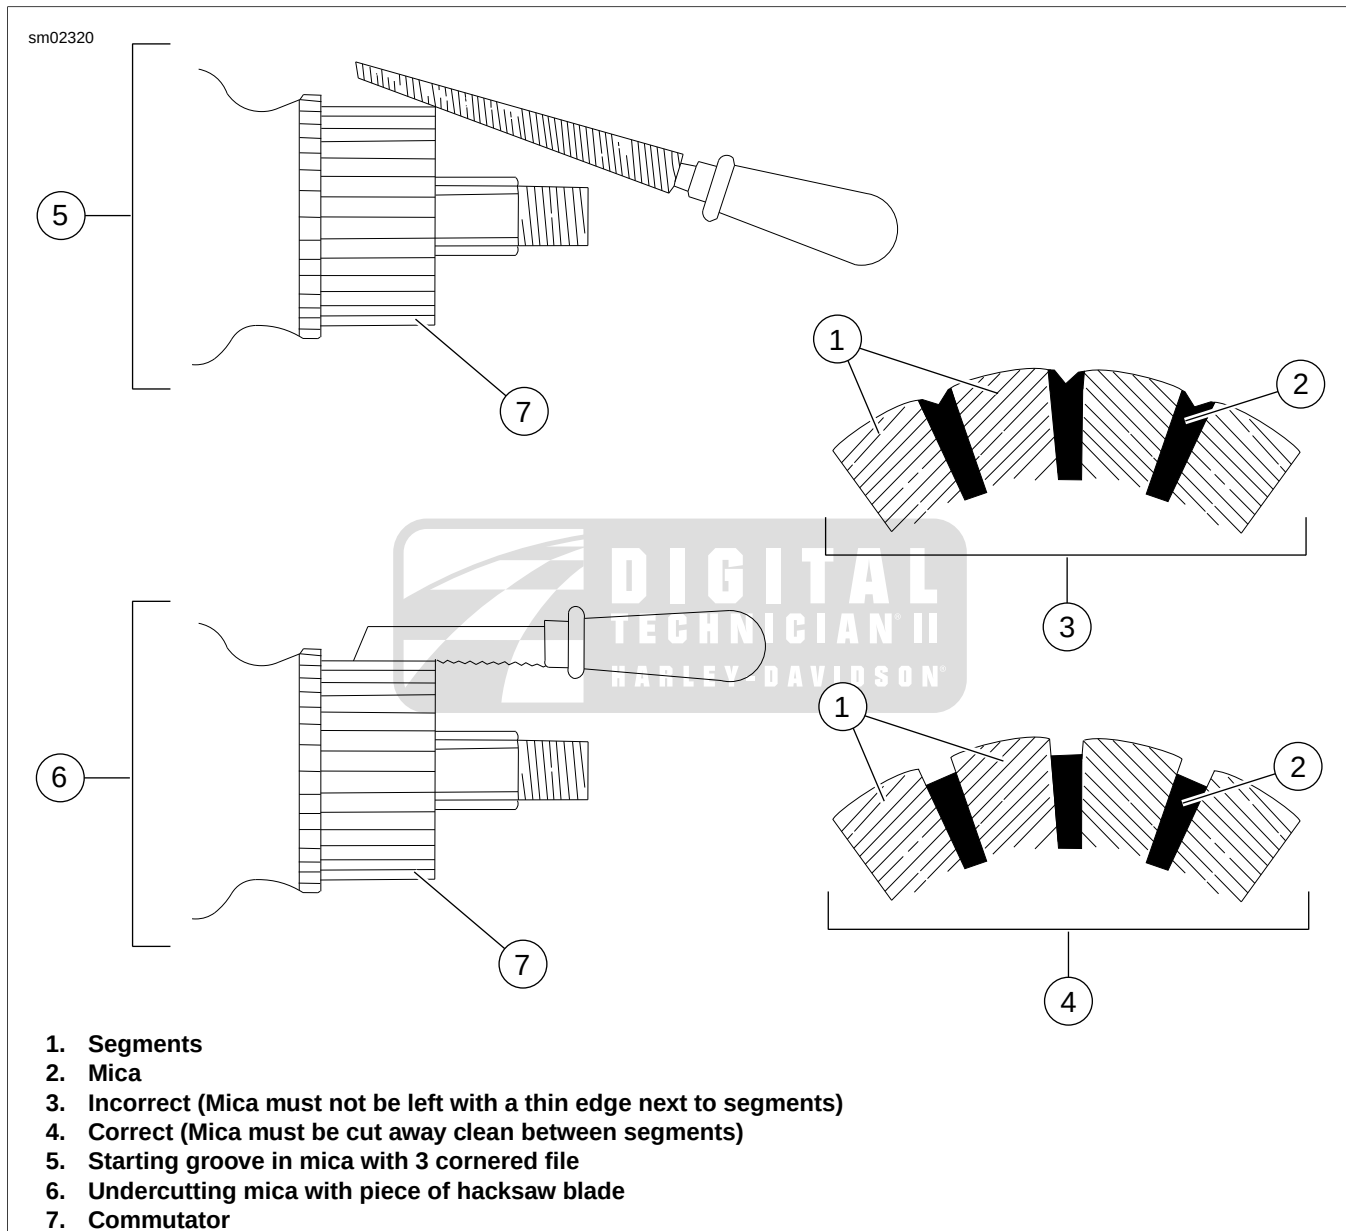

Figure 6-35. Undercutting Mica Separators
- See Figure 6-35. If an undercutting machine is not available, undercutting can be done satisfactorily using a thin